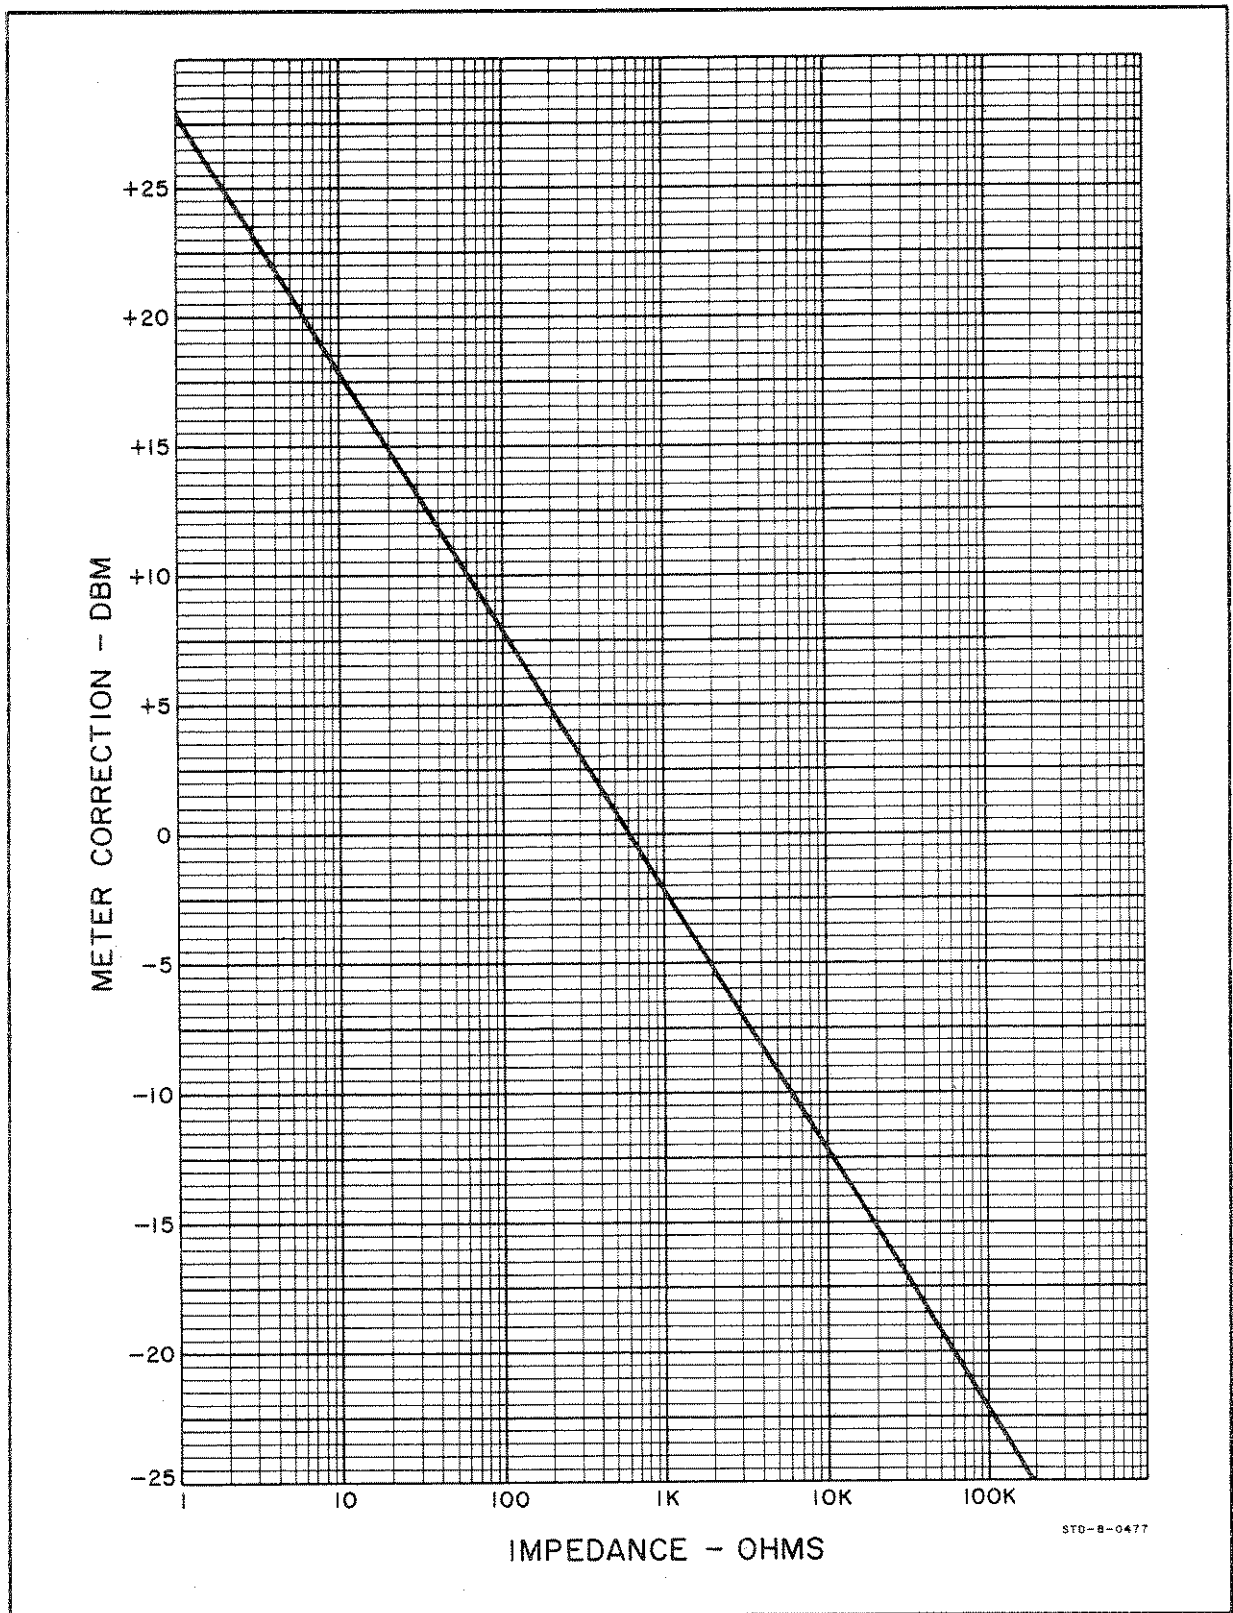

Figure 3-2. Impedance Correction Graph
- e. To convert a dB reading to dBm, use the Impedance Correction Graph (Figure 3-2). For example, to convert a +30 dB reading made across a 50Ω load to dBm, locate the 50Ω load impedance on the bottom of the graph. Follow the impedance line to the heavy black line and read the meter correction at that point. The correction for 50Ω is +10.5 dBm, and the corrected reading is +40.5 dBm.